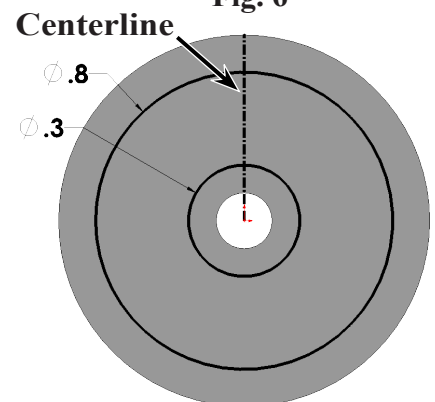

Fig. 7
Step 8. Sketch a vertical centerline from the Origin  **up to edge of Wheel**, **Fig. 7**.